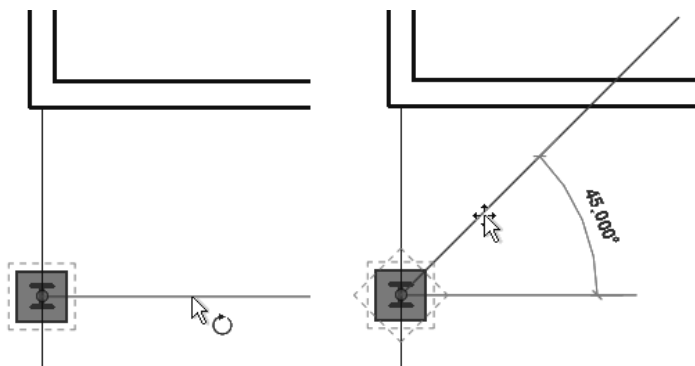

Figure 2–54
- Move the ray line until you see the temporary dimension **45.000**, as shown on the right in Figure 2–54.